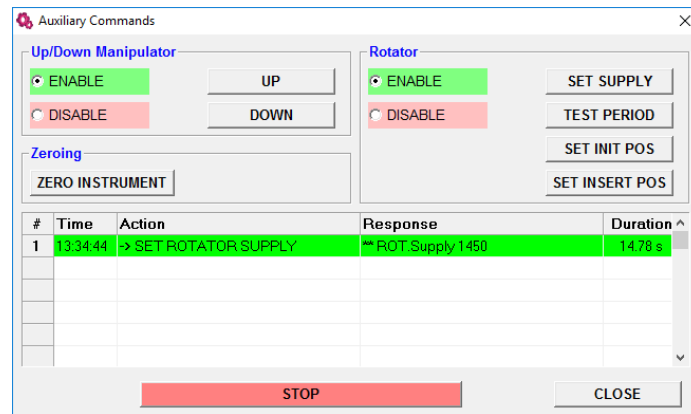

Figure 15: An example of the **Auxiliary Commands** window.
1. Go to:    to launch the **Auxiliary Commands** window (Figure 15).